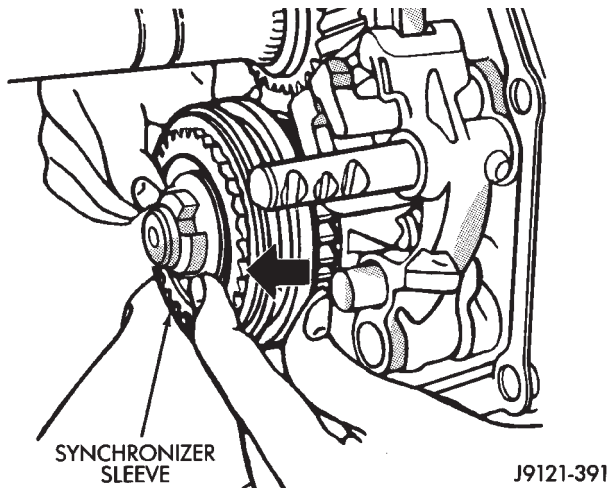

Fig. 86 Locking Fifth Synchronizer
(15) Shift fifth gear synchronizer sleeve rearward to lock it (Fig. 86).